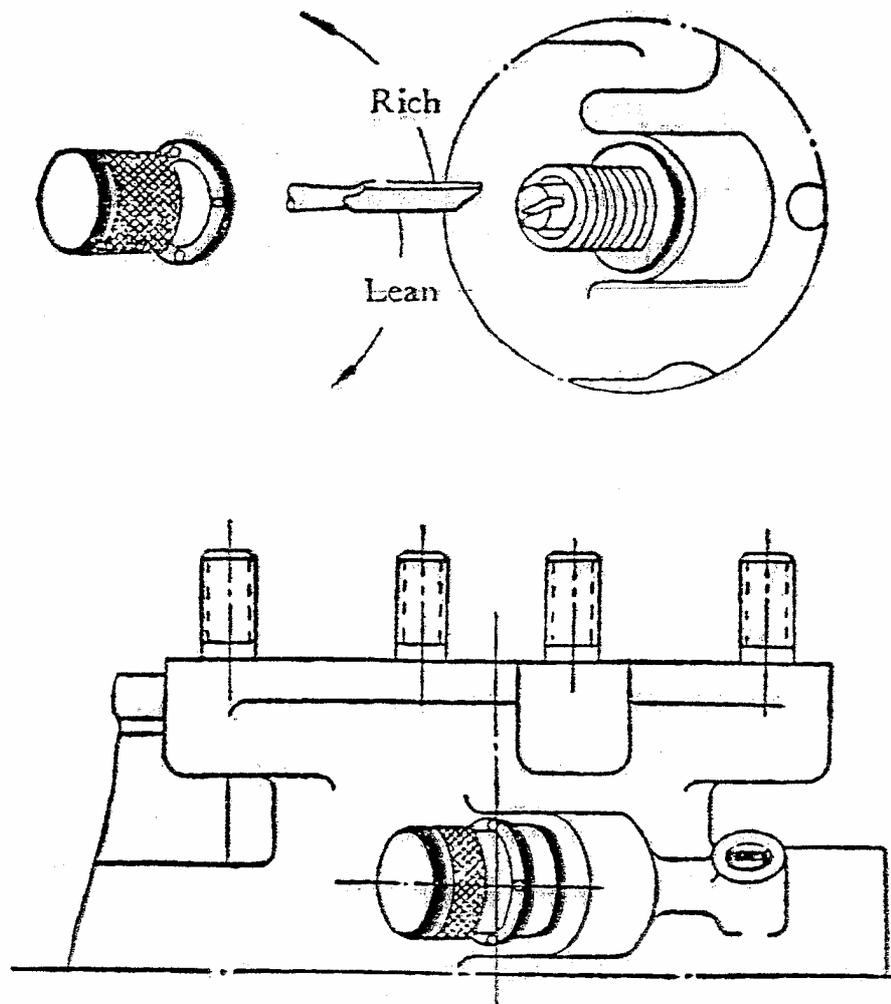

Fig. 9 Adjustment of idle mixture ratio
a. Adjust idle mixture ratio with idle fuel needle (Fig. 9). As clockwise turn the idle needle, mixture change into lean; as counterclockwise turn idle needle, mixture changes into rich.